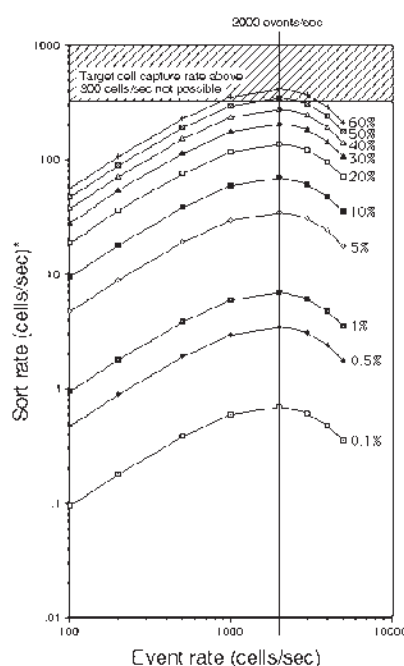

Figure 1. Sort rates at various event rates and target cell percentages
- Figure 1 illustrates the relationship between sort rate and event rate when sorting in Single Cell mode. Note that the maximum sort rate usually occurs when the event rate is approximately 2,000 events/sec. This requires an input concentration of approximately  $10^7$  cells/mL when using the LO flow rate.